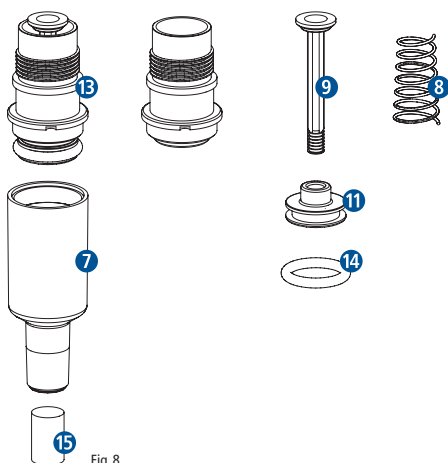

Fig. 8
- Unscrew the tip holder **7** and the piston unit **13** counter clockwise. Remove the O ring **14** and pull off the spacer ring **11** from the piston unit **13**. Now you can clean the spring **8** and piston **9** (Fig. 8).